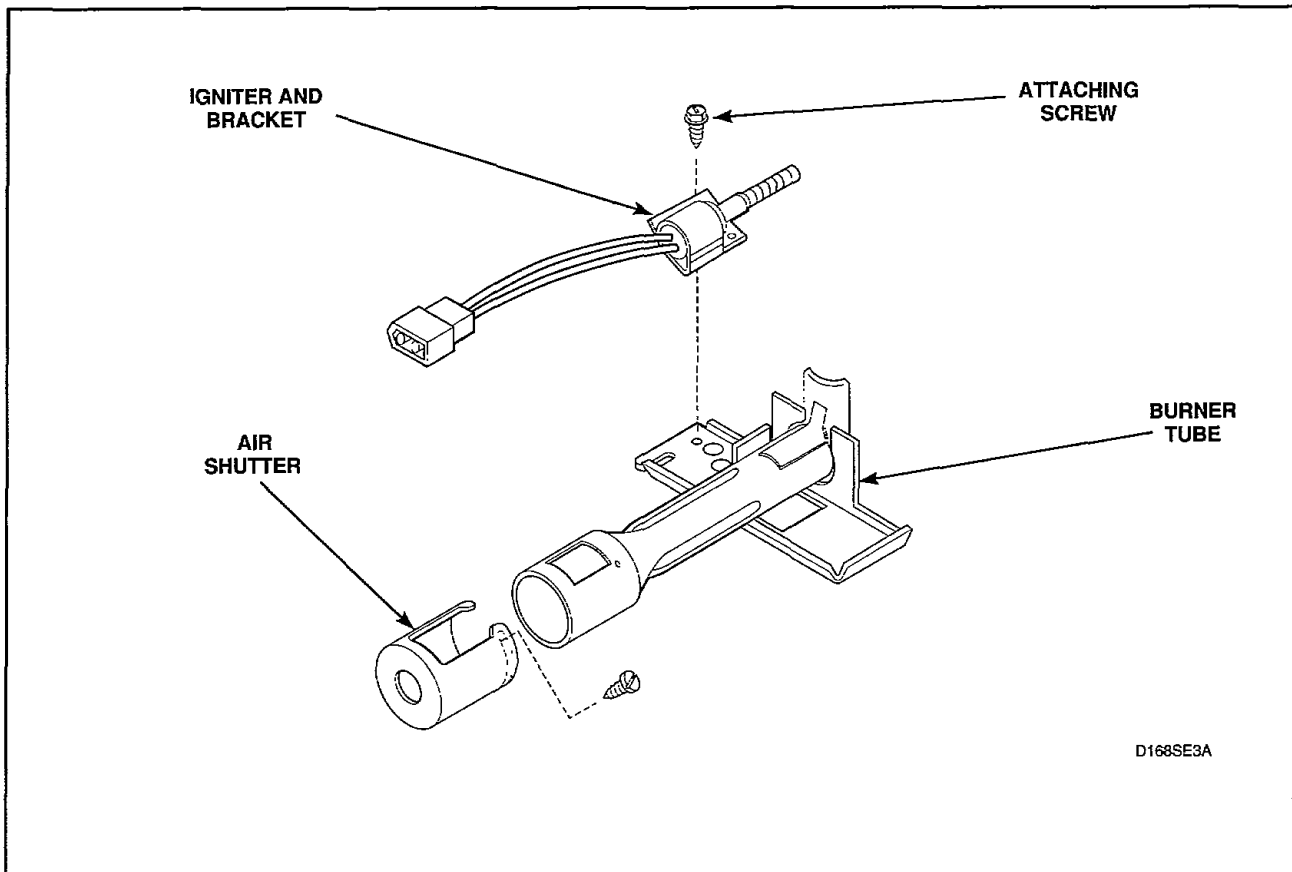

Figure 28
- (3) Carefully rotate burner tube and igniter counterclockwise so tab is at 8 o'clock position.
- (4) Move air shutter end of burner tube slightly to right and CAREFULLY remove burner tube and igniter assembly out through front of dryer.
- (5) Remove screw holding igniter and bracket to burner tube and remove igniter and bracket, *Figure 28*.